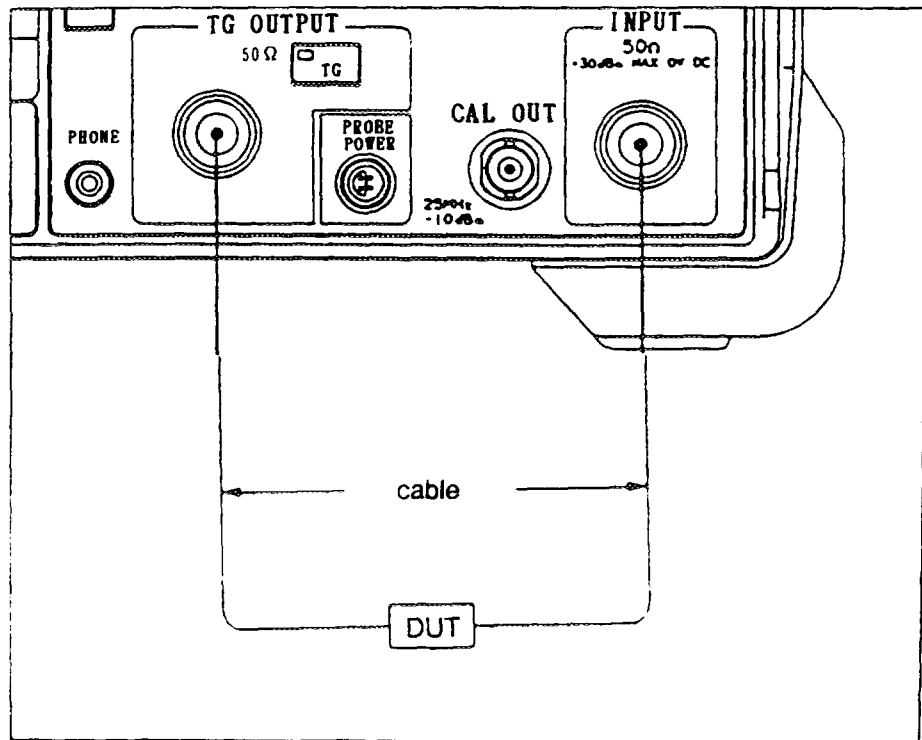

Figure 4-21 Connecting with DUT
- ④ If an error caused by the frequency response of cables spectrum analyzer etc. is not negligible, then you should compensate it as is described in step (2) later on.
- ⑤ Set up the DUT and test cable as shown in Figure 4-21.